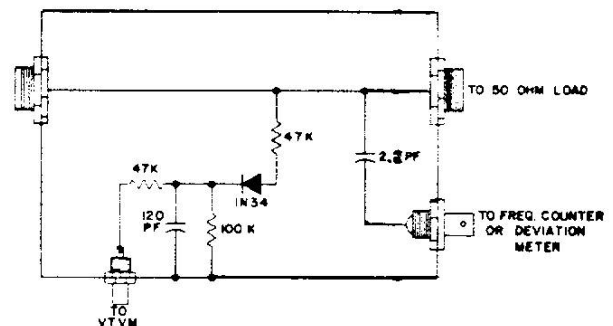

Figure 4-5. Relative Output Indicator
- a) Power Meter: 50-watts @ 175 MHz, or relative output indicating device (Figure 4-5).
1. Attach a 50-ohm dummy load to the transceiver RF - output connector through a power meter or relative output indicating device (Figure 4-5).
5. If relative output indicating device of Figure 4-5 is used, connect VTVM DC probe to the relative output terminal; otherwise, observe the wattmeter or other relative output indicator.